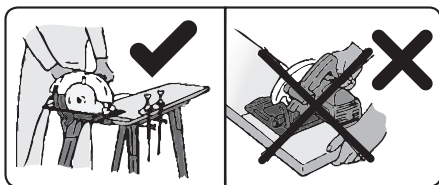

Fig. 4
- Secure the material that is to be cut before cutting it using an appropriate clamping mechanism, e.g. using clamps to a workbench (see fig. 4). Never hold the material being cut in your hand or leaning against your knee.